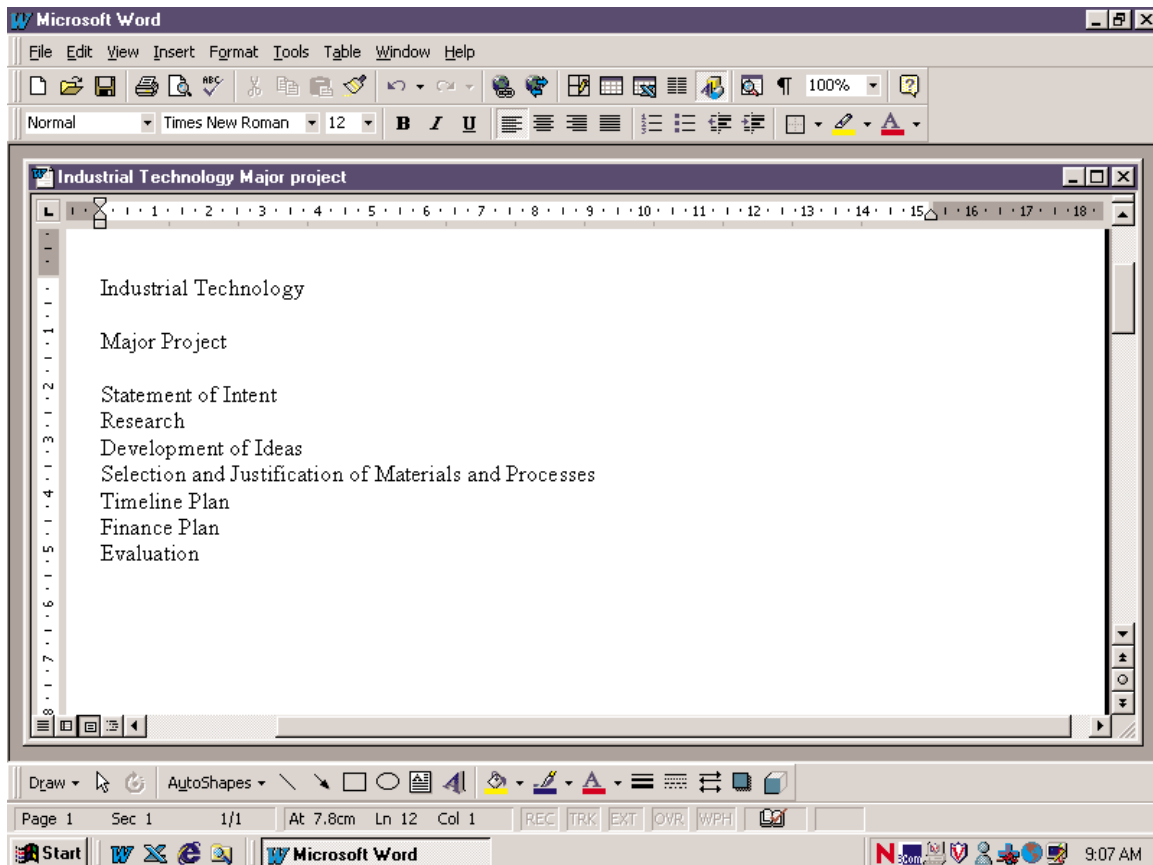
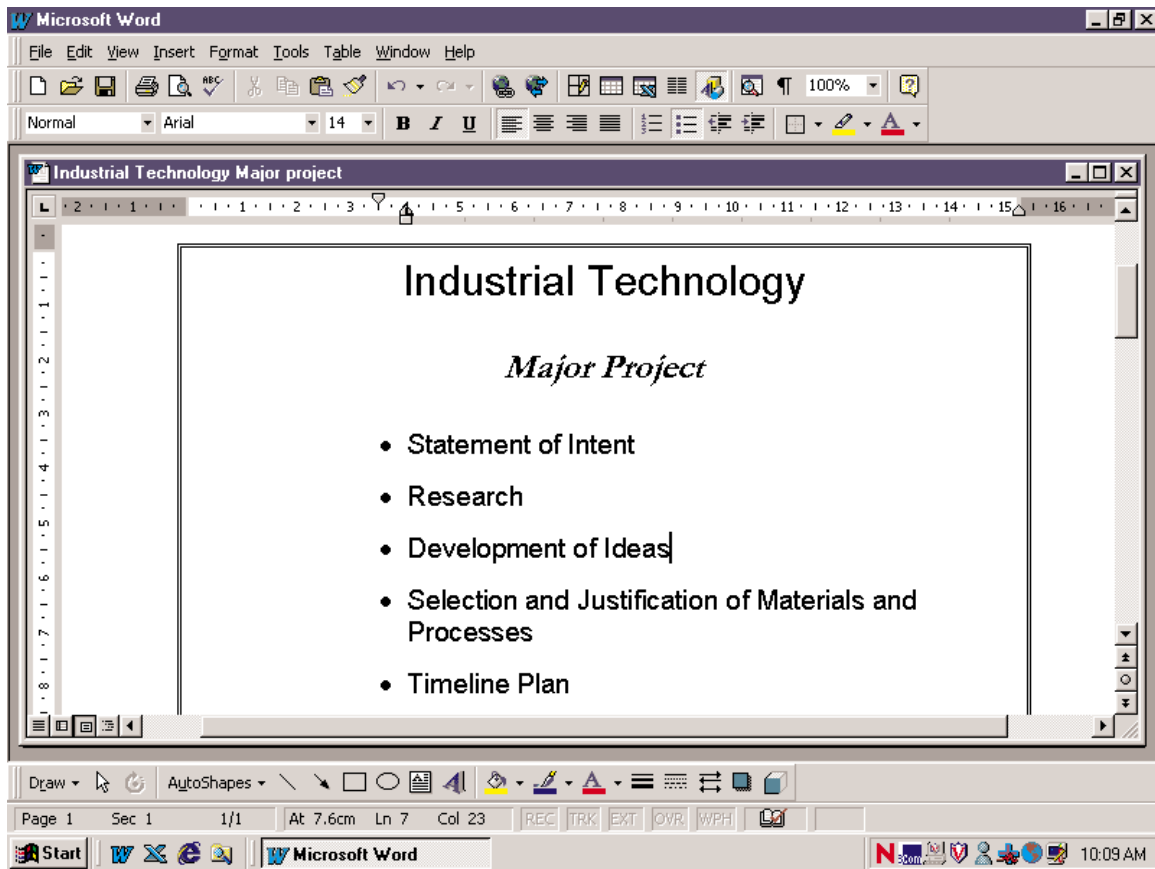

Fig. 1 Cover page, first draft
Fig. 2 Cover page, final draft
- (c) Daniel is preparing his Folio for the Major Project using word-processing software. Figure 1 is the first draft of his cover page. Figure 2 is his final draft of the cover page. 6